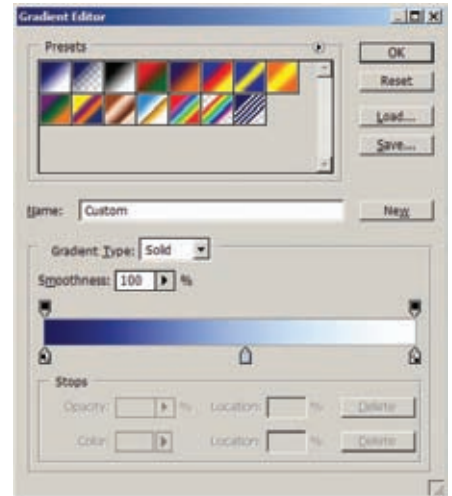

Figure 8.30
6. In your image, click in the approximate center (it doesn't have to be perfect) and drag out toward the side. This will paint in the circular gradient. The goal is to get a gradient that looks like Figure 8.30.